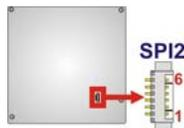

Figure 3-7: Flash SPI ROM (GT218) Connector Location
- CN Location:** See **Figure 3-7**